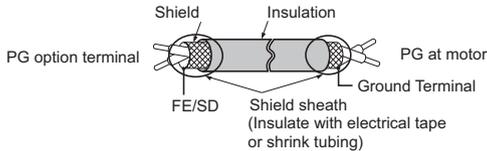
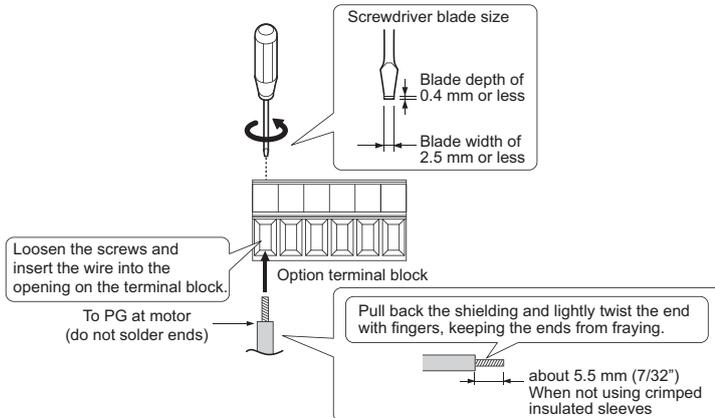
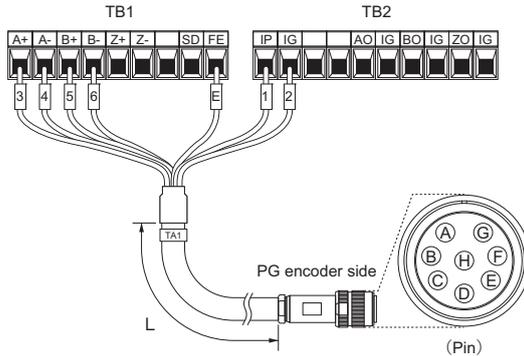

Figure 6 Preparing Ends of Shielded Cable
Figure 7 Preparing and Connecting Cable Wiring
Figure 9 Wiring PG Encoder Cable
4. Prepare and connect the wire ends as shown in Figure 6 and Figure 7. Refer to Wire Gauges and Tightening Torques on page 25 to confirm that the proper tightening torque is applied to each terminal. Take particular precaution to ensure that each wire is properly connected and wire insulation is not accidentally pinched into electrical terminals.
5. Wire the motor PG encoder to the terminal block on the option. Refer to Figure 6, Figure 7, and Figure 9 for wiring instructions. Refer to Figure 8 for the connection diagram. Refer to Table 6 for a detailed description of the option terminal functions.
Yaskawa recommends using a LMA-□□B-S185Y (complementary output) for cables running between the option and the PG as show in Figure 9. For instructions on wiring the terminal block, refer to Terminal Functions on page 26.